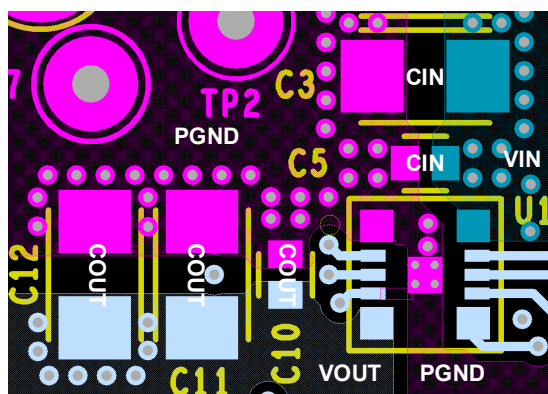
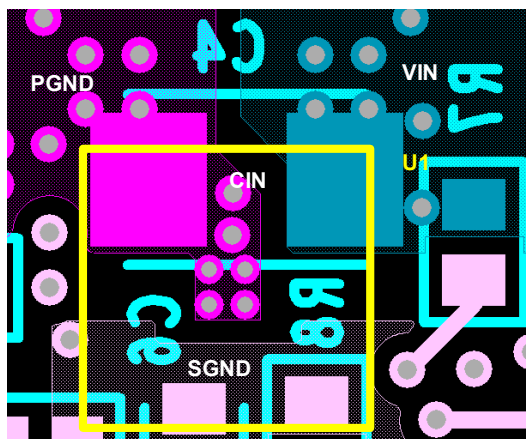

Figure 4. Layout Example - Top Layer
Figure 5. Layout Example - Bottom Layer
- Place the input ceramic capacitors as close as possible to the module input. These ceramic capacitors minimize the high frequency noise by reducing the parasitic inductance of the power loop. Proper placement of these capacitors not only leads to less PHASE node spikes and ringing, but also minimizes the switching noise coupled to the module. Renesas recommends using dielectric X7R or equivalent with a minimum total capacitance of 44 μ F at the module input. A layout example is shown in Figure 4 and Figure 5.